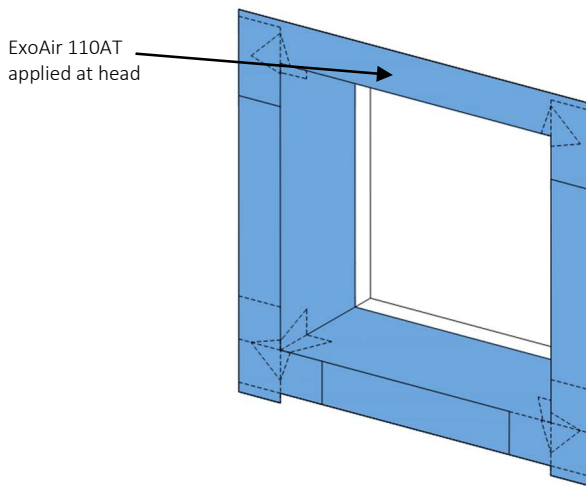

Fig. 16
- e. Install ExoAir 110AT onto the head 3" minimum into the rough opening and onto the exterior wall and extending 3" passed the rough opening on either side. – **Figure 16.**